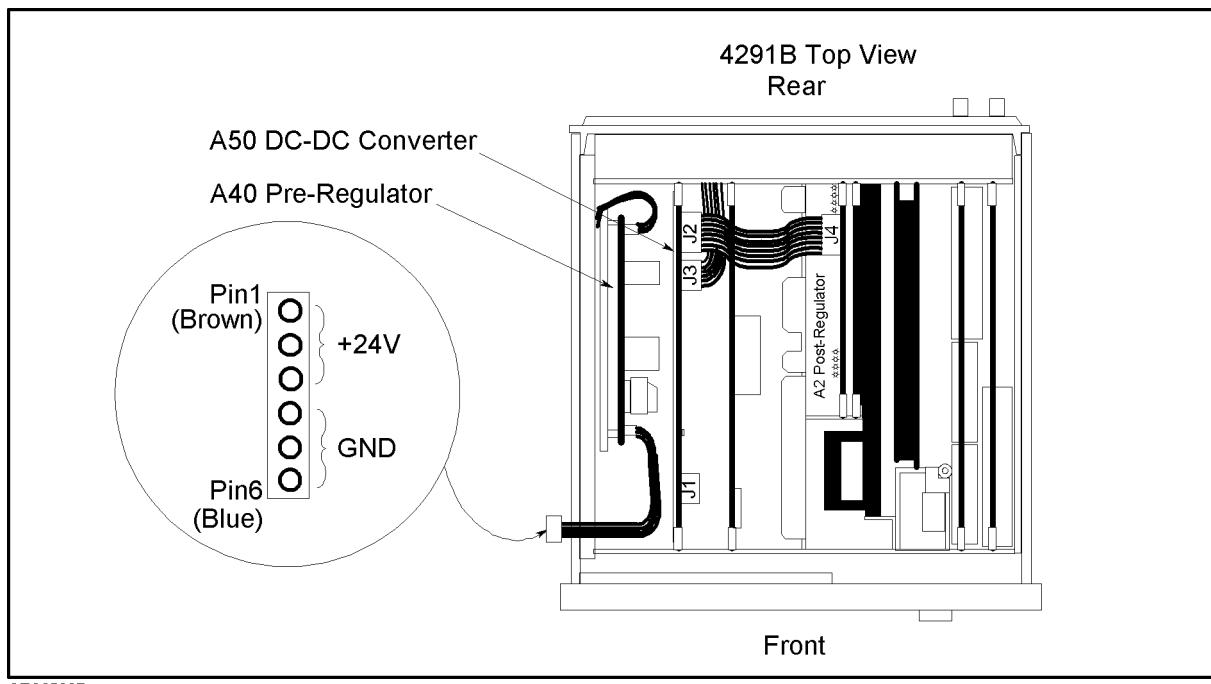

Figure 5-7. A40J1 Output Voltage
- b. Disconnect the cable from A40J1. The A40J1 location is shown in Figure 5-7.
- b. Disconnect a cable form the A50J3. The A50J3 location is shown in Figure 5-7.